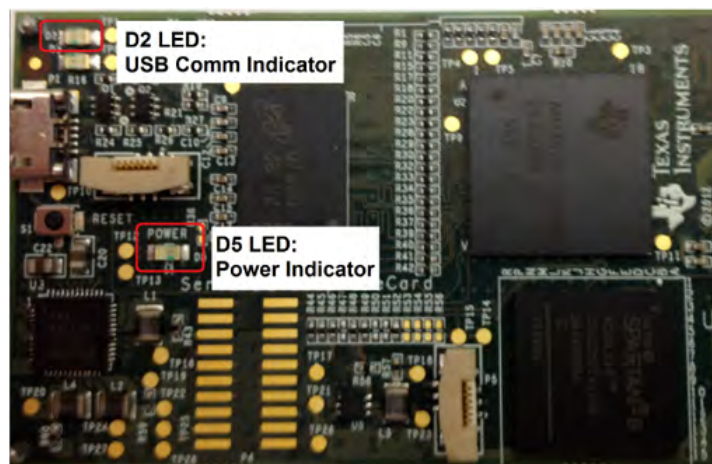

Figure 6. LED Indicators on the Simple Capture Card
- Step 6. Verify that the LED D5 Power Good indicator is illuminated. Wait approximately ten seconds and verify that diode D2 blinks, indicating that USB communication with the host PC is functioning properly. Figure 6 shows the location of the LED indicators in the Simple Capture Card.